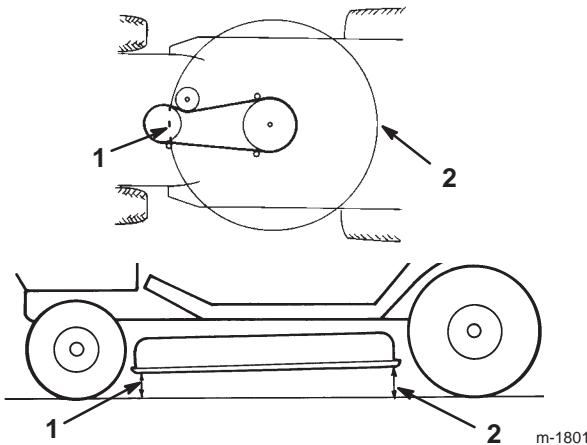

Figure 44
10. Check the front-to-rear blade slope by measuring between the bottom of the mower (front center and rear center) and the flat surface (Fig. 44). If the front of the mower is more than $5/8$ in. (16 mm) lower than the rear of the mower, adjust it; refer to steps 11 through 17.